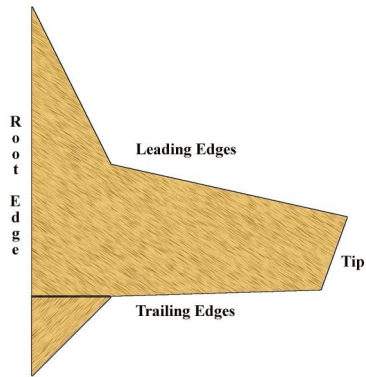

Figure 1
- **Step 2** Cut out all of the pieces for the fins, and assemble them according to the layouts on the pattern sheet. Use clamps, weights, or other devices to hold the pieces flat to the building surface while the glue dries, to ensure there are no warps or misalignments. Study the image in Figure 1. Make sure all of the **root edges** are straight, trimming or sanding the joint lines between the pieces as needed.